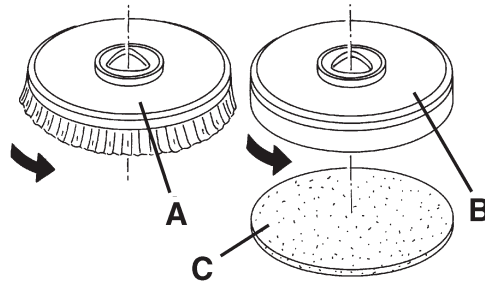

Figure 2
1. According to the kind of cleaning to be performed, the machine can be equipped either with the brush (A, Fig. 2) or the pad-holder (B) with pad (C) together with the appropriate deck.
2. Insert the ignition key (80) and turn it to "I".
3. If equipped, turn the speed adjuster (84) to idle by turning it counter-clockwise.
4. Place the brush (A) or the pad-holder (B) under the deck (18).
5. Lower the deck on the brush/pad-holder by pressing the pedal (11).
6. Turn the ignition key (80) to "I".
7. Press the brush/pad-holder switch (71).
8. Press one of the switches (83) to engage the brush/pad-holder, then release it. If necessary, repeat the procedure until the brushes/pad-holders are engaged.